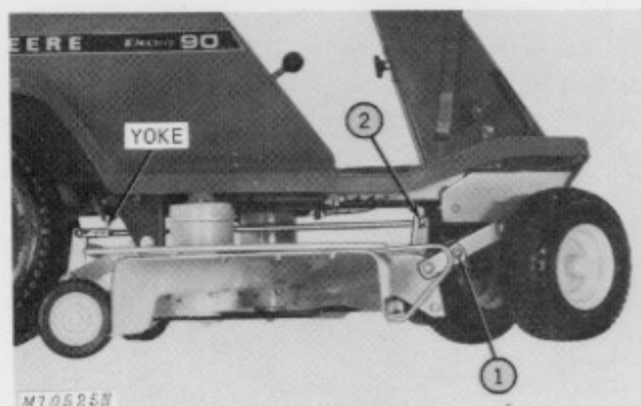

Fig. 8-Leveling Adjustments
1. To adjust for side-to-side level, Fig. 8, loosen bolt on right front draft arm and raise or lower mower deck until blades are level. Tighten nut securely.